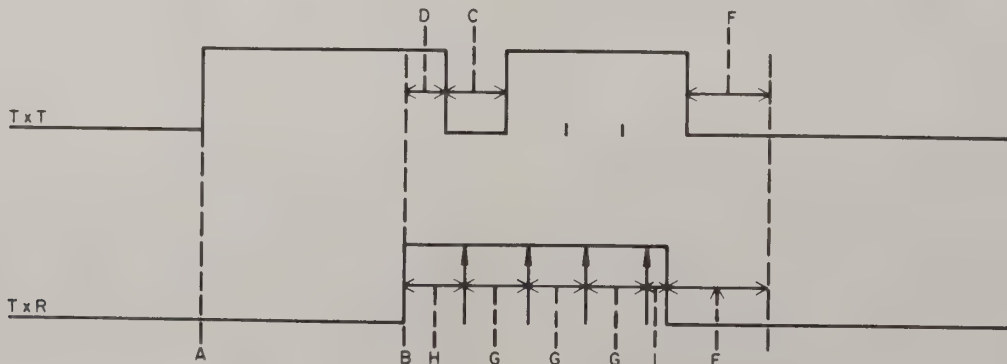

Figure 14. Successful Single Word Transmission
4.69 Single Word Transmission (Figure 14): The originating device place TREQ on its transmit port. The receiving device responds with an RQAK, which begins the transmission. The bits are then transmitted from Most Significant Bit (MSB) to Least Significant Bit (LSB) with each bit stable for approximately 1.33 millisecond. The transmitting device must check for the presence of RQAK prior to sending each bit. Should RQAK drop before an entire word is sent, the transmitting unit will be returned to the low condition. This eliminates simultaneous transmission possibilities. The end of a transmission is established when TREQ does not reappear for a minimum of 1.7 msec.
Letters refer to the accompanying diagrams. (Figures 14, 15, and 16).